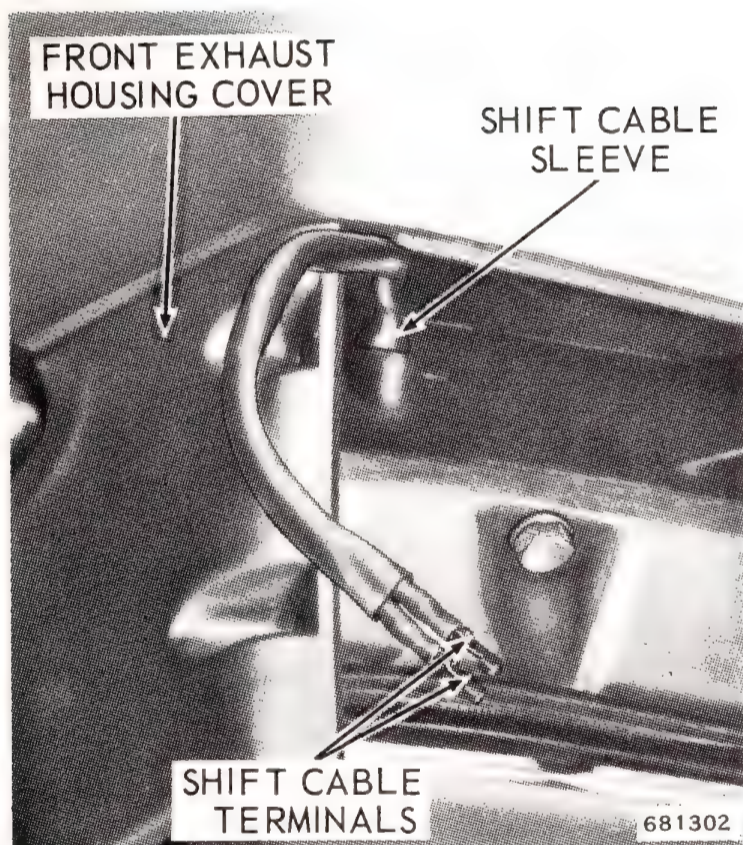

Figure 6-8. Shift Cable Sleeve
- d. Remove four screws from front exhaust cover and 2 aft inside of lower motor cover and remove rear exhaust cover. See Figure 6-8. Apply oil or liquid soap to cable sleeve and push down through hole in exhaust housing.